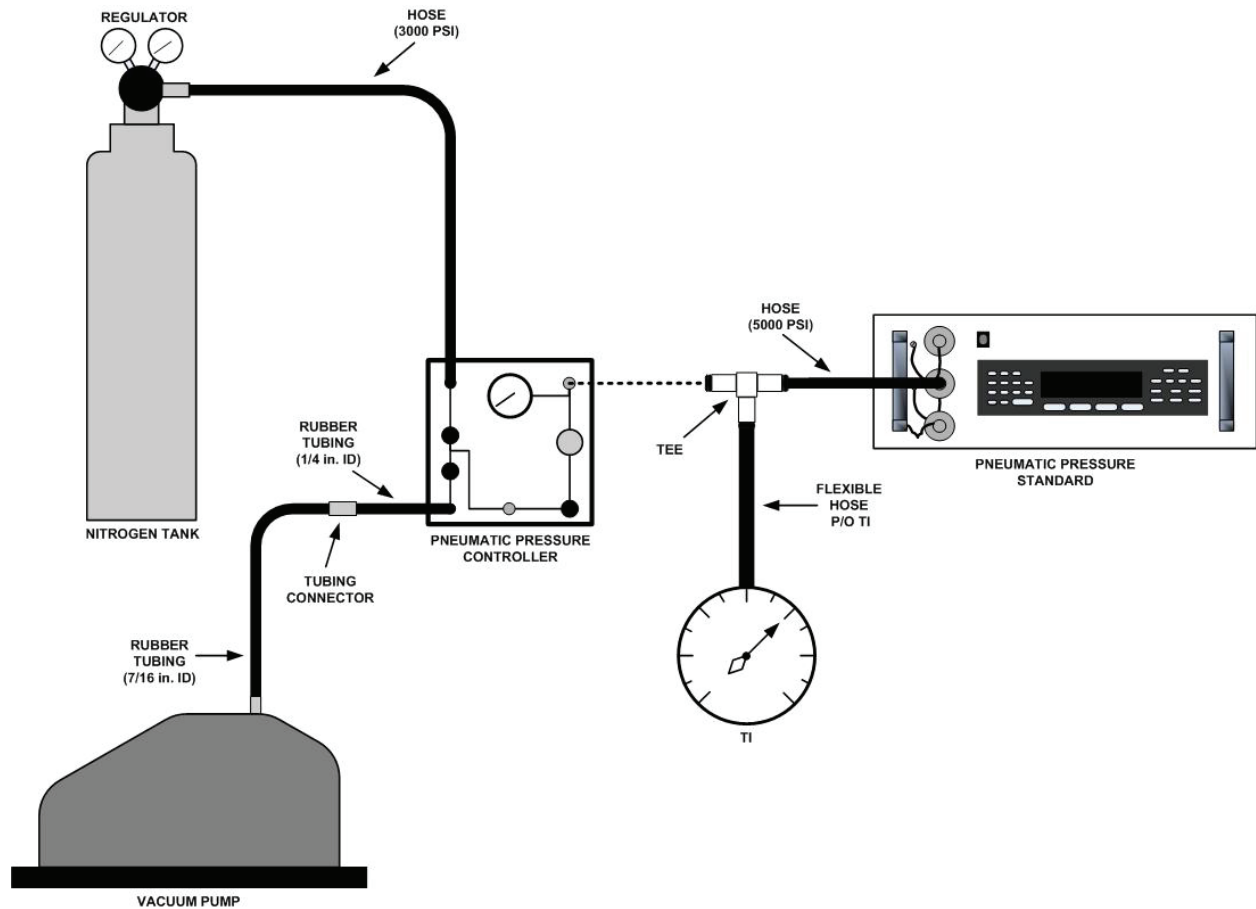

Figure 1. Vacuum and pressure check - equipment setup.
- b. Connect equipment as shown in figure 1.